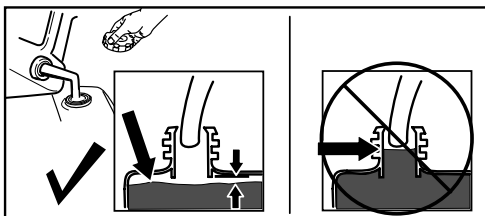

Figure 13
Fill the fuel tank as shown in Figure 13; do not fill above the bottom of the fuel tank neck.
- Remove an obstruction from the discharge chute; refer to Clearing a Clogged Discharge Chute \(page 14\). Use the snow-cleanout tool (Figure 13), not your hands, to remove an obstruction from the discharge chute.